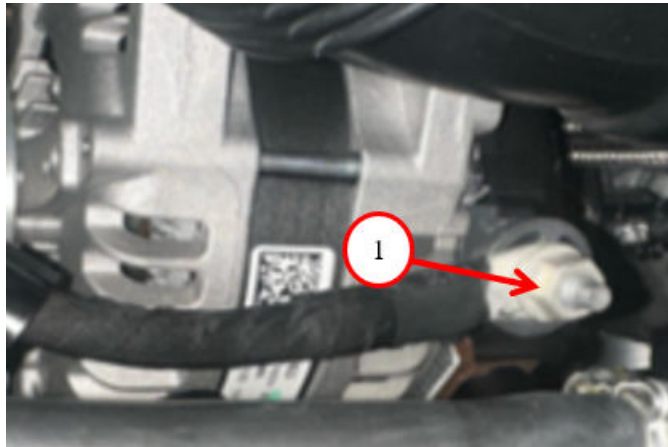

Fig. 1
3. Tighten the B+ cable nut to 10 N·m. (8 Ft. Lbs.) Fig. 1.